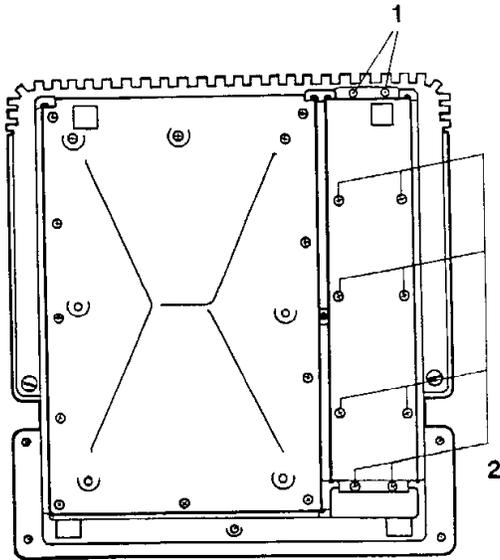

FIGURE 5
3. Loosen but don't remove the two Phillips head screws located on the rear edge of the power supply bottom cover, near the on/off switch and power supply receptacle. (See Figure 5, Item 1).
4. Completely loosen the eight screws that secure the power supply to the chassis. Do not try to take them out (See Figure 5, Item 2).